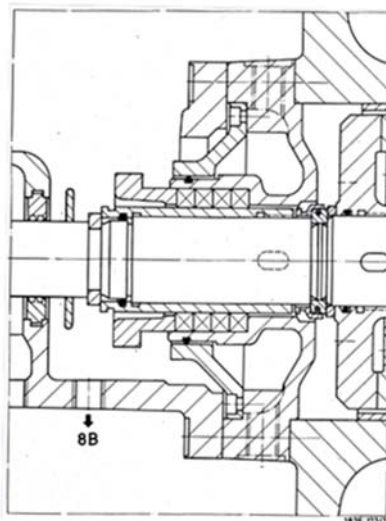

Figure 29 – Standard execution with gland packing
① The numbers 1 and 2 refer to positions of the connections shown on Figures 29 and 30.